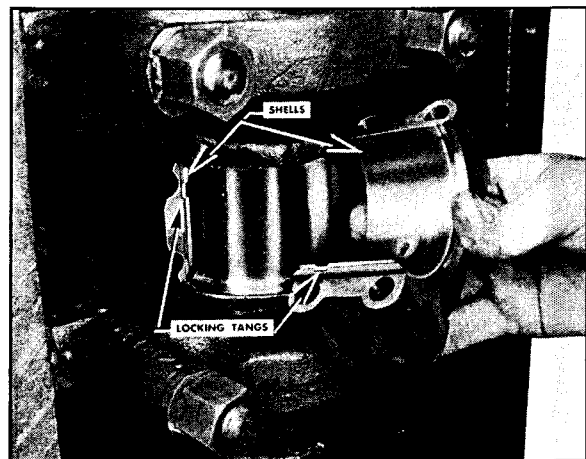
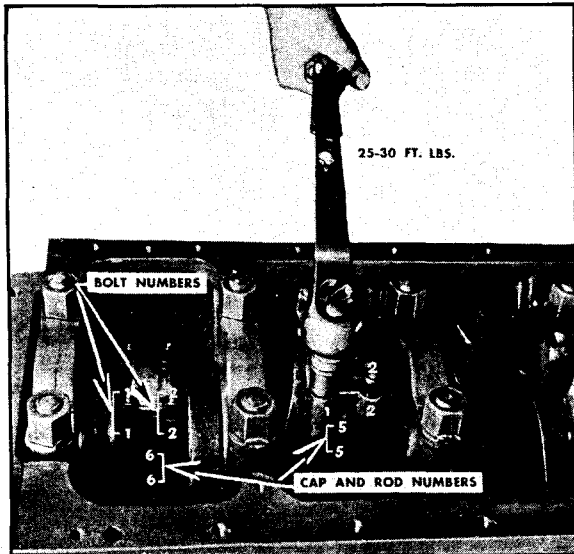

Fig. 12-28. Location of locking tangs and milled recess in rod and cap
Fig. 12-29. Tightening U-bolt nuts
CAPS: 1. Assemble the rod cap with bearing shell around the crankpin journal. Fig. 12-28. Numbers on rod and cap must match at shown in Fig. 12-29.
2. U-bolts should be assembled in original position as shown by matching "1" or "2" numbers on the end of the bolt and the side of the rod. Fig. 12-29.